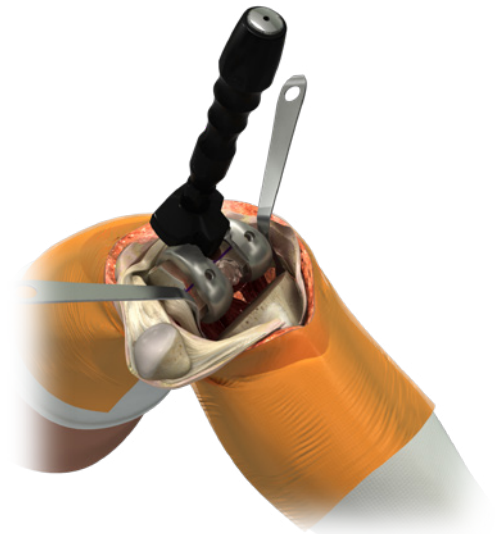
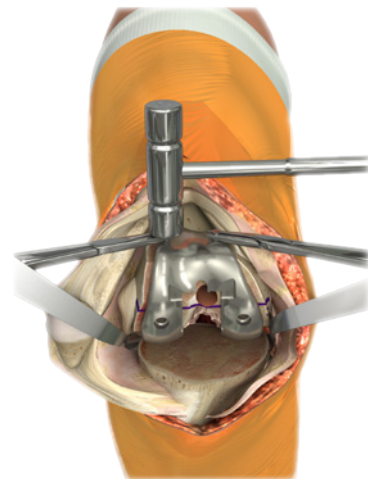

Figure 19
Figure 20
**Note:** To avoid the trial slipping into flexion, the trial femoral impactor can also be used as a notch Impactor by rotating it 180 degrees and impacting the anterior femoral notch area (Figure 19).
**Note:** The ANTHEM® Femoral Trials can be used to trial for both ANTHEM Posterior Stabilized (PS) and Cruciate Retaining (CR) implants. For PS implants, proceed to step 3. For CR implants, proceed to page 30, step 1 (Component Trialing - Cruciate Retaining resection).
3. Secure the selected femoral trial to the bone using two short headed pins in the anterior flange (Figure 20).